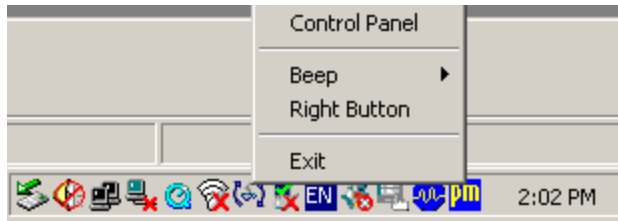

Figure 5-18: PenMount Monitor Popup Menu
Step 3: Click the icon. A pop up menu appears. See **Figure 5-18**.
Step 4: Click Control Panel in the pop up menu shown in **Figure 5-18**.